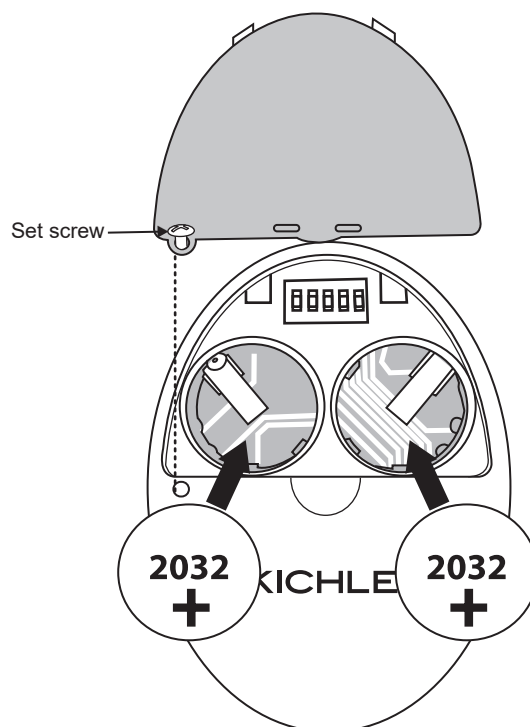

Fig. 18
Open the back of the Transmitter. You need to use a screwdriver to open or close the battery cover (figure 18)
2. Insert both batteries and make sure they are seated correctly in each recess with the Positive + sign facing up. Replace the battery cover. (Figure 18)